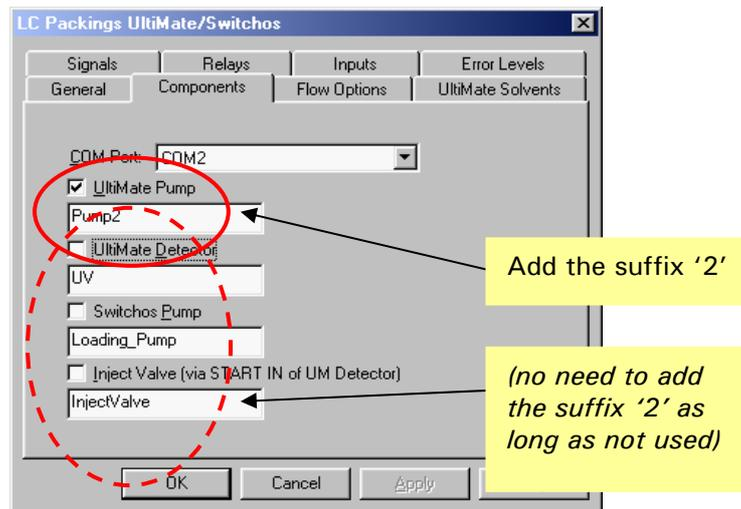

FIGURE B-12 Configuration of the UltiMate/Switchos Components
- h) Rename the names all *Components* used with the second 'Ultimate system' by adding the suffix '2' (FIGURE B-12).